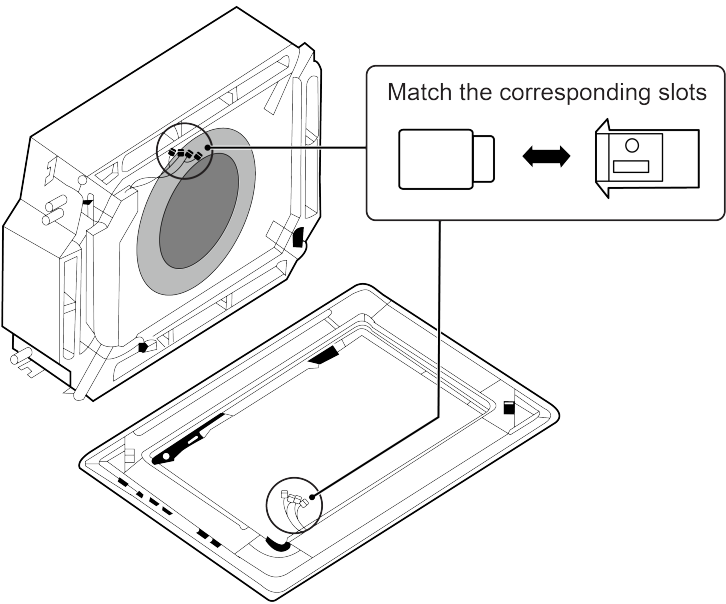

Fig.4.5.3
- (3) Connect the decoration panel terminals (Female) to body terminals (Male) as shown in Fig.4.5.3.